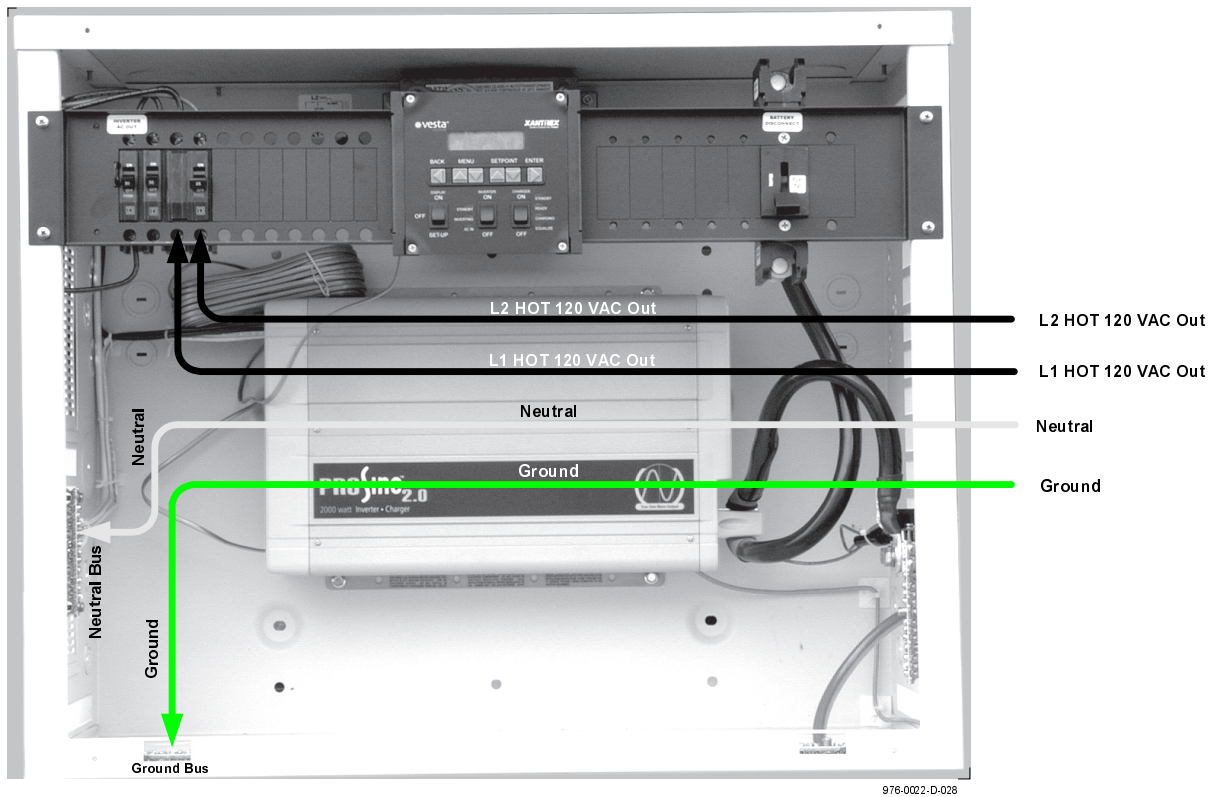

Figure 2-10
3. The Vesta Power Module provides a 2-pole, 25 amp, 120/240 VAC output breaker which allows you to backup two 120/240 VAC load circuits. These two backed up load circuits should be selected to provide power to the most important loads within the 15–25 amp Vesta Power Module breaker capacity. Refer to Figure 2-10.
4. Locate the 2-pole, 120/240 VAC, 25 amp, “AC Out” breaker on the Vesta Power Module. Connect the selected two load circuit wires to the AC output breakers using #10/3 AWG (Hot 1, Hot 2, Neutral, plus Ground). Refer to Figure 2-10.